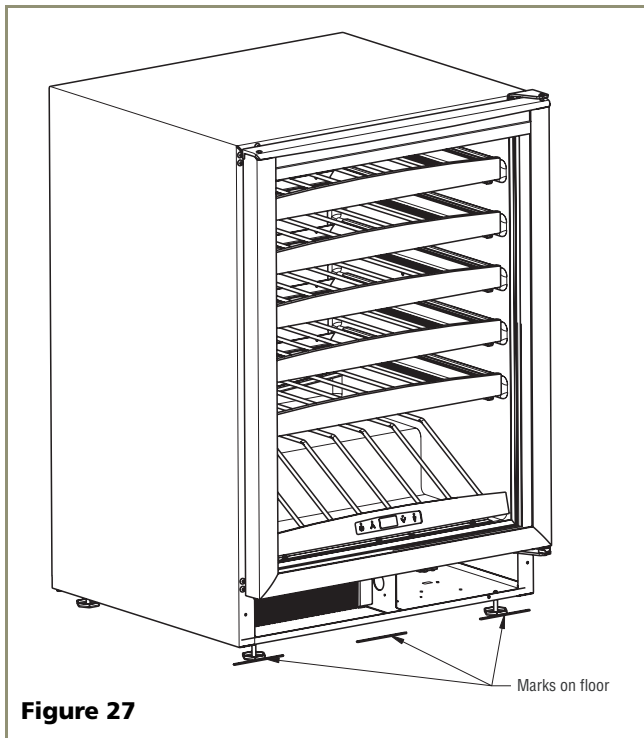

Figure 27
3. Remove grill and place a mark on the floor at the front of the unit. Also place a mark on the floor in the center of the unit. See **Figure 27**.